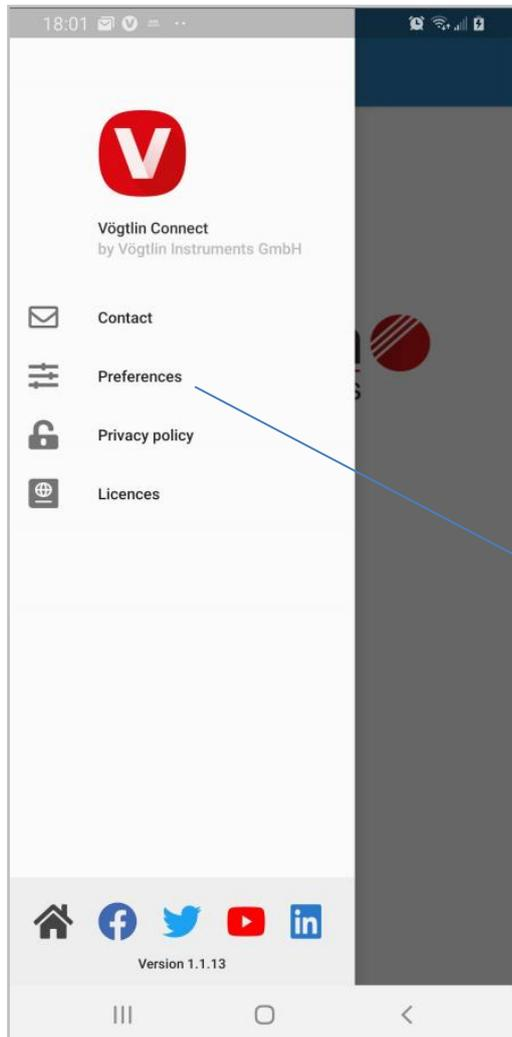

Figure 31: Connect app preference settings
1. Install the program on your telephone and open the program. You see this screen on the right (Fig 31).